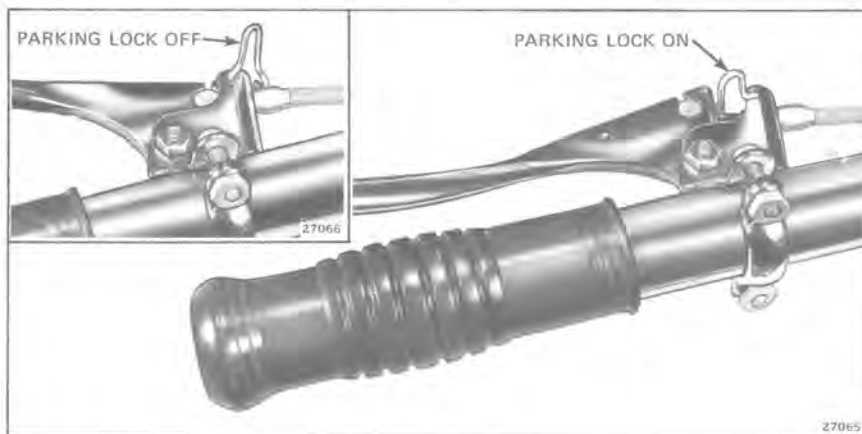

Figure 9-1
- n. Apply brake and lock. See Figure 9-1.